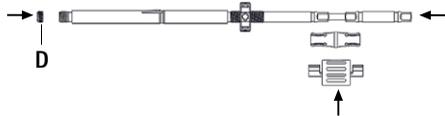

Fig. 11
- ▶ Insert screwdriver into inner sleeve, secure with spacer and apply set screw D, see Fig. 11.